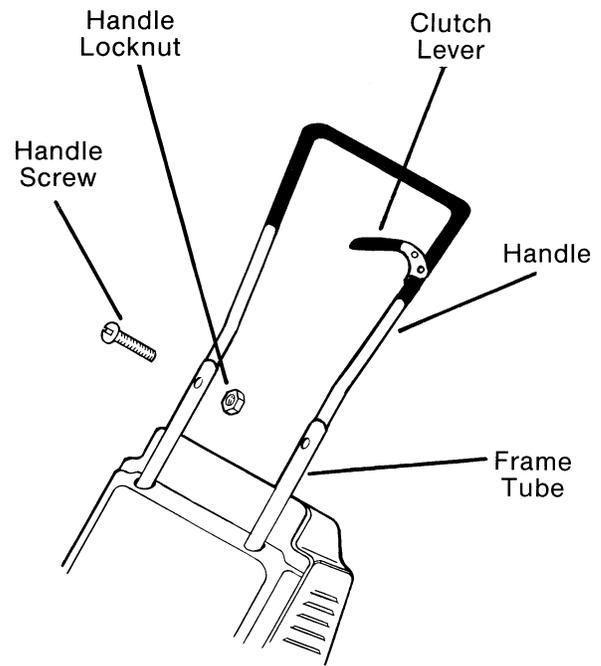

FIG. 2
- C. Secure handle in place with the handle screws and locknuts. Install screws from top down. (Fig. 2) Tighten locknuts until snug against tube. DO NOT overtighten and collapse tube.